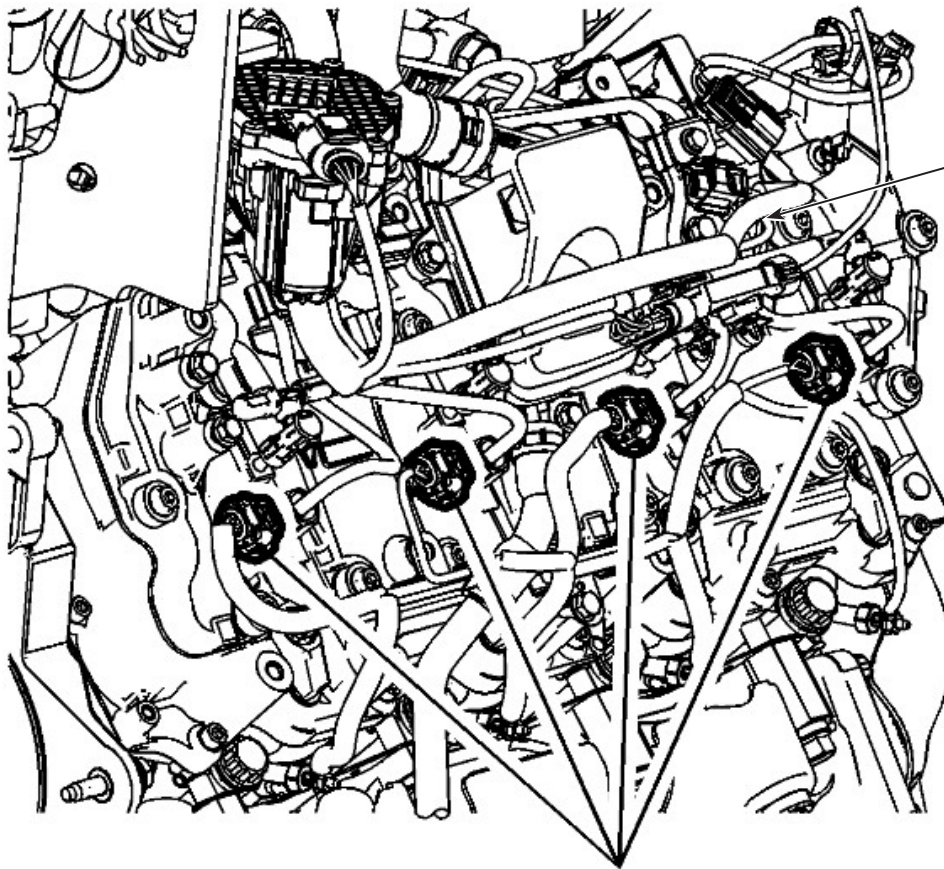

Figure 1
1. Disconnect the fuel injector electrical connectors. See Figure 1.
10. While referring to the label on each injector electrical connector, reconnect and ensure they are connected correctly. See Figure 1.